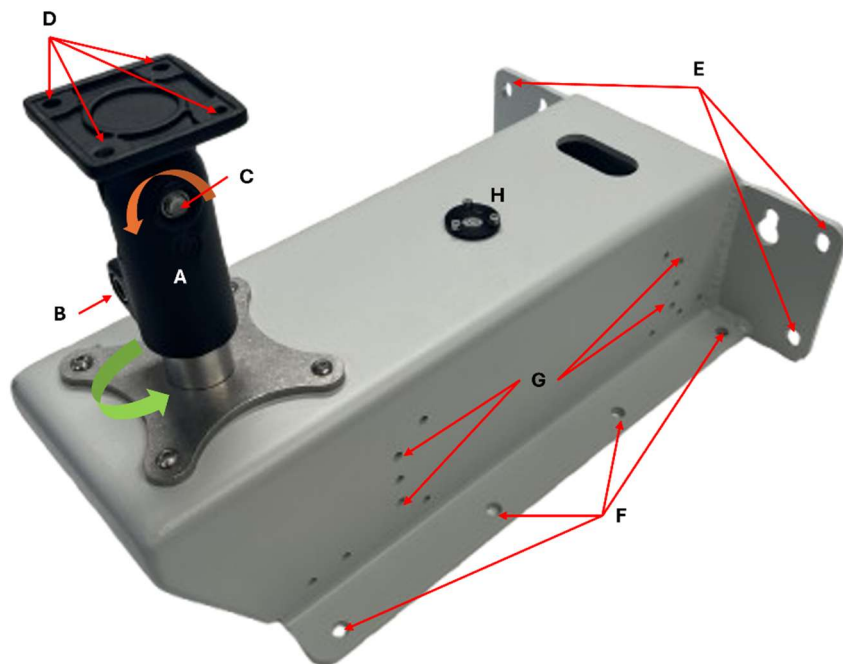

Fig. 5 Fixed Mount Kit
MyMo Fixed Mount Kit (1047900) (Fig. 5) allows **MyMo** to be installed and used in those circumstances where the tripod may not be suitable for the purposes of monitoring.
1. With the *Fixed Mount Kit* upside-down, place the bolts, washers and nuts provided (using "G" of Fig. 5), and make sure that they are loose, to allow the correct insert of the power supply,
3. Use the cable gland hole (A) to pass the cable and to connect the output side of the cable to the PWR plug of **MyMo** (B). Then, connect "C" to the right adapter, depending on the Region where the system is used.
1. Place **MyMo Fixed Mount kit** on the horizontal plan selected for the monitoring and sign the points corresponding to the holes (F in Fig. 5). Drill these points with the correct size drilling rig,
5. Adjust the heading of **MyMo** acting on screws **B** and **C** of the tilting head (Fig. 5)
1. Place **MyMo Fixed Mount Kit** on the vertical structure selected for the monitoring and sign the points corresponding to the holes (E in Fig. 5). Drill these points with the correct size drilling rig,
5. Using holes "E" of Fig. 5, fix the **Fixed Mount Kit** to the **Pole Adapter** using the (4) bolts, (8) washers, and (4) locking nuts provided with the kit.